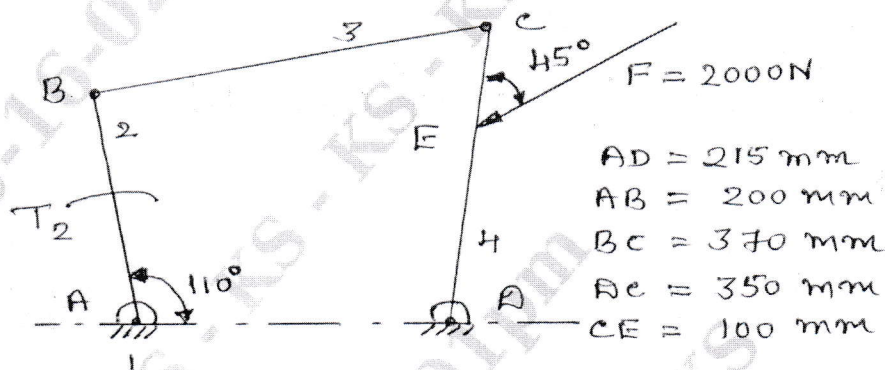

Fig. Q1 (b)
- b. For the 4 bar mechanism shown in Fig. Q1 (b), find the required torque T_2 and various P in forces on the links for the equilibrium of the system.